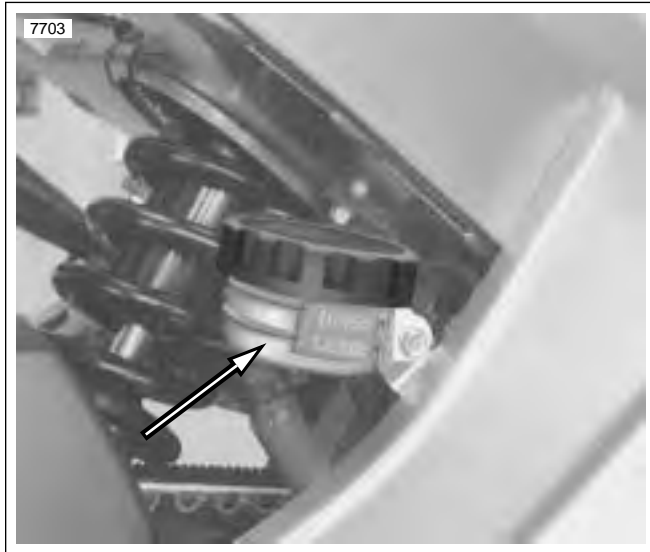

Figure 2-52. Remote Reservoir
1. See Figure 2-52. Connect remote reservoir.